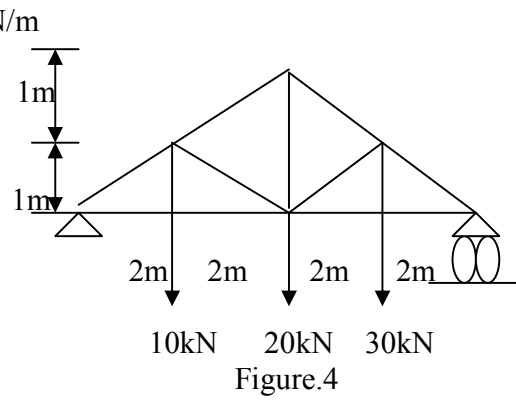

Figure.4
- (b) For the truss as shown in the figure.4, calculate the vertical deflection at the central lower point. Assume that all the members are having equal E and A. **07**